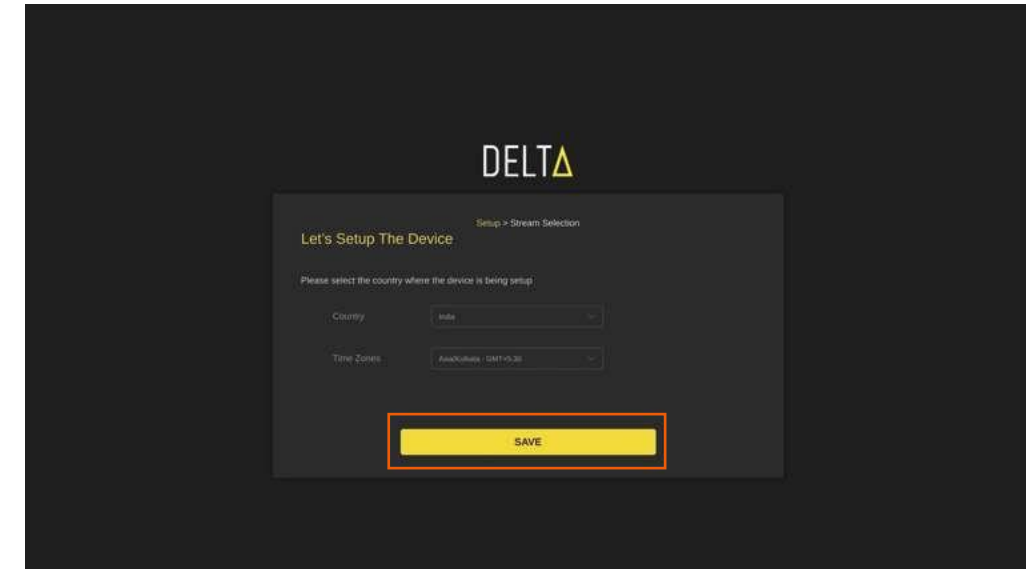

Figure 36: Setup Page
- Once in the set-up page, select the appropriate *Country* and *Time Zone* from the drop-down menus and click *SAVE*, as shown in *Figure 36*.